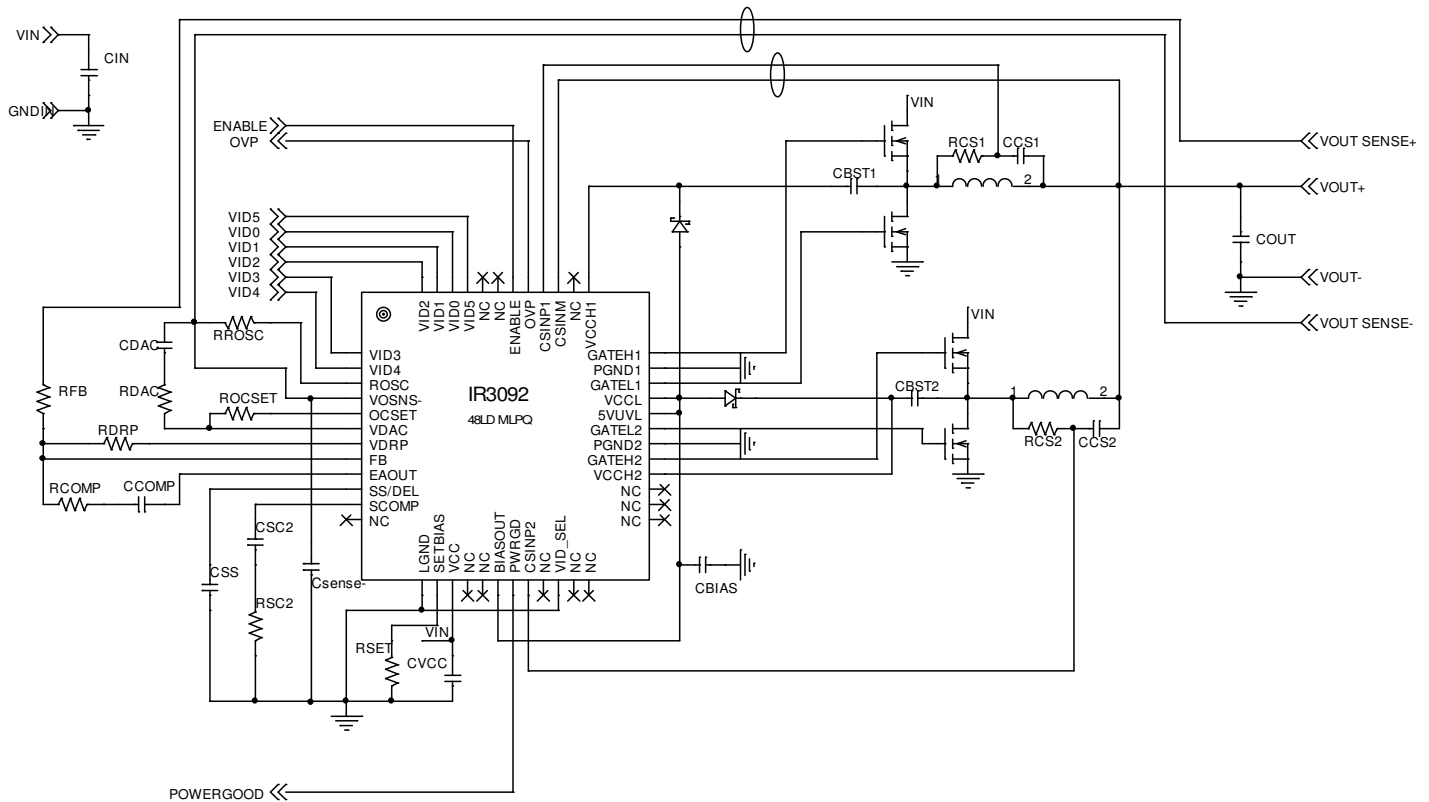

Figure 6 – System Diagram
VDAC sink current I_{SINK} and source current I_{SOURCE} are determined by R_{ROSC} , and their value can be found using the curve in the Typical Operating Characteristics. The slew rate of VDAC down-slope SR_{DOWN} can be programmed by the external capacitor C_{DAC} as defined in Equation (1) and shown in Figure 6. Resistor R_{DAC} is used to compensate VDAC circuit and is determined by Equation (2). The slew rate of VDAC up-slope SR_{UP} is proportional to the down-slope slew rate SR_{DOWN} and is given by Equation (3).
The oscillator frequency is programmable from 100kHz to 540kHz with an external resistor R_{ROSC} as shown in Figure 6. The oscillator generates an internal 50% duty cycle saw tooth signal (Figure 4.) that is used to generate 180° out-of-phase timing pulses to set Phase 1 and 2 RS flip-flops. Once the switching frequency is chosen, R_{ROSC} can be determined from the curve in the I(SETBIAS) vs. Rosc curve in the Typical Operating Characteristics Section.